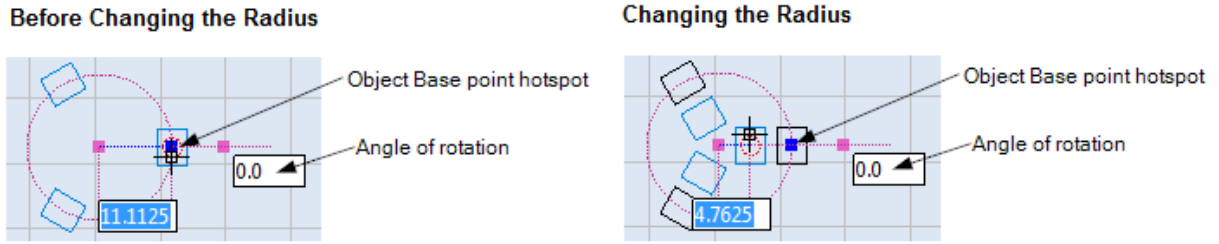

Figure 481: The Polar Array before and during the changing of the radius
1. Select the Polar Array and left-click its Object Base point hotspot. As shown in Figure 481 (below) the Object Base point hotspot will turn blue.
Note that by dragging the Object Base point hotspot may change the angle of rotation, as well as the radius, of the Polar Array. You can reset the angle of rotation of the Polar Array by typing a new value in the **Angle of rotation** field, which is shown in Figure 481 (below).